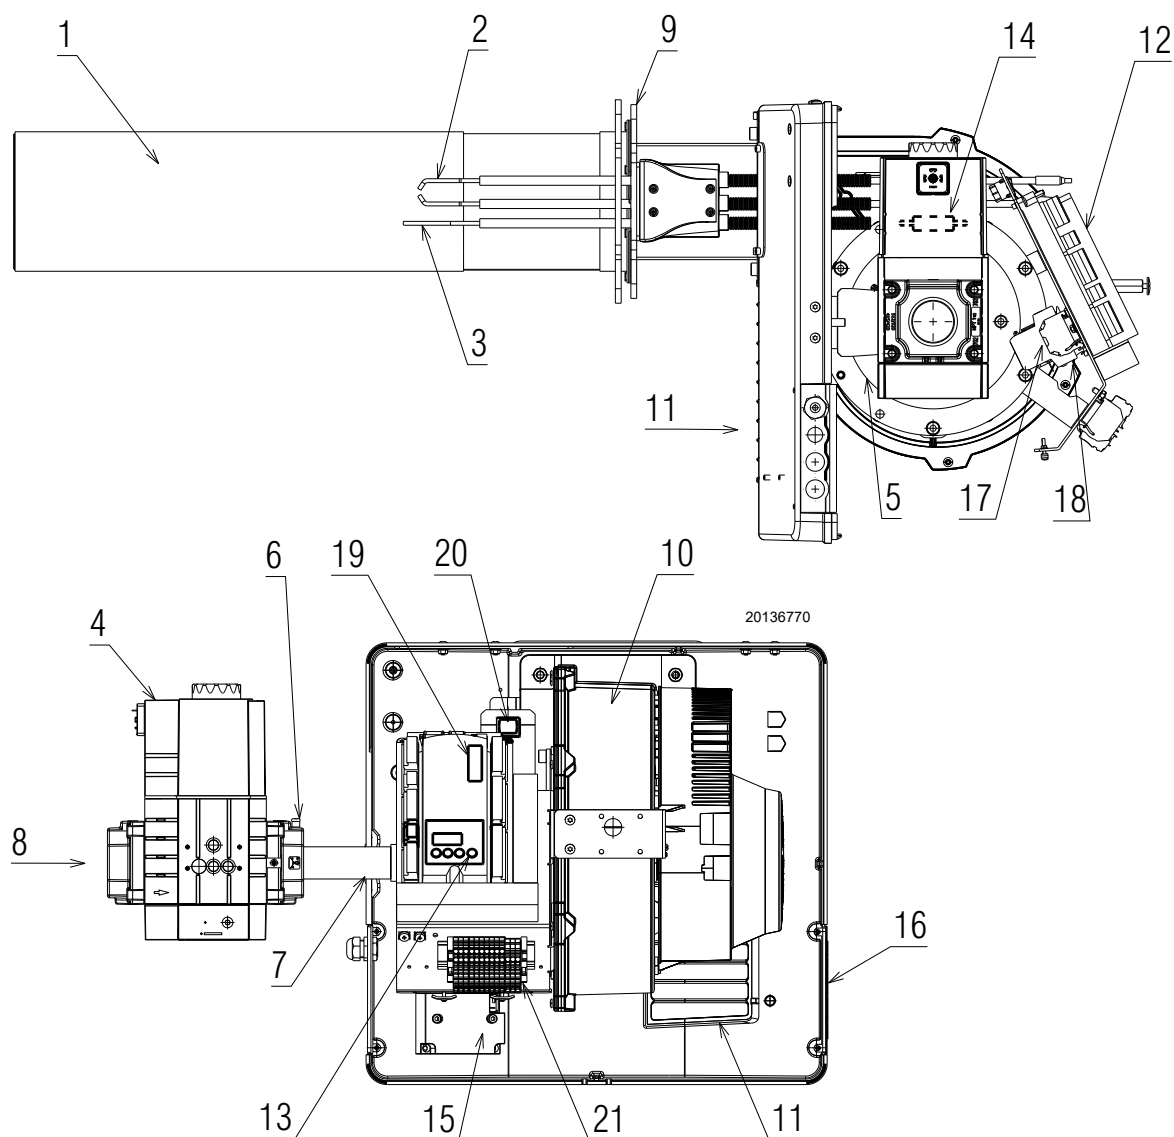

Fig. 3
- (1) Reference conditions: Ambient temperature 20°C - Gas temperature 15°C - Barometric pressure 1,013 mbar - Altitude 0 m a.s.l.
(2) Input gas pressure 8)(Fig. 3) with zero pressure in combustion chamber and at maximum burner output.
(3) Sound pressure measured in manufacturer's combustion laboratory, with burner operating on test boiler, at maximum, average and minimum modulation output. The sound power is measured with the "Free Field" method, as per EN 15036, and according to an accurate "Accuracy: Category 3" measurement, as described in EN ISO 3746.
The lockout signal is indicated on the display of the control box with "LOC" and the error code. To unlock, press the button 13)(Fig. 3).